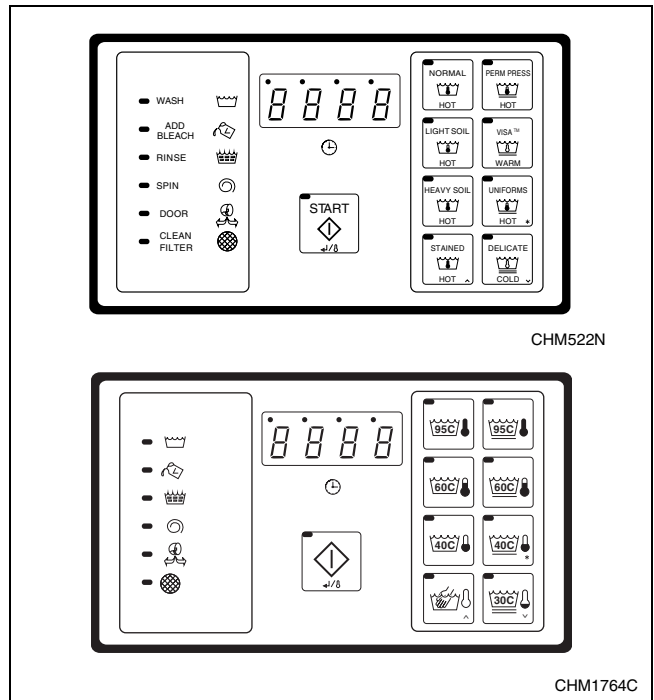

Figure 34
5. The default wash cycle will display. Refer to *Figure 34*.